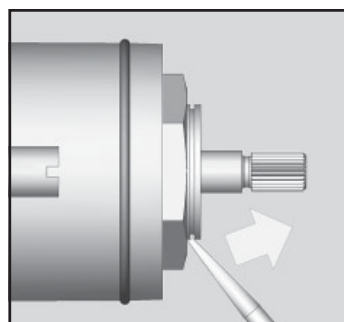

Figure 4
2. Remove the grey adjustment ring by placing the blade of a knife into the groove and prying it off. (SEE FIGURE 4)